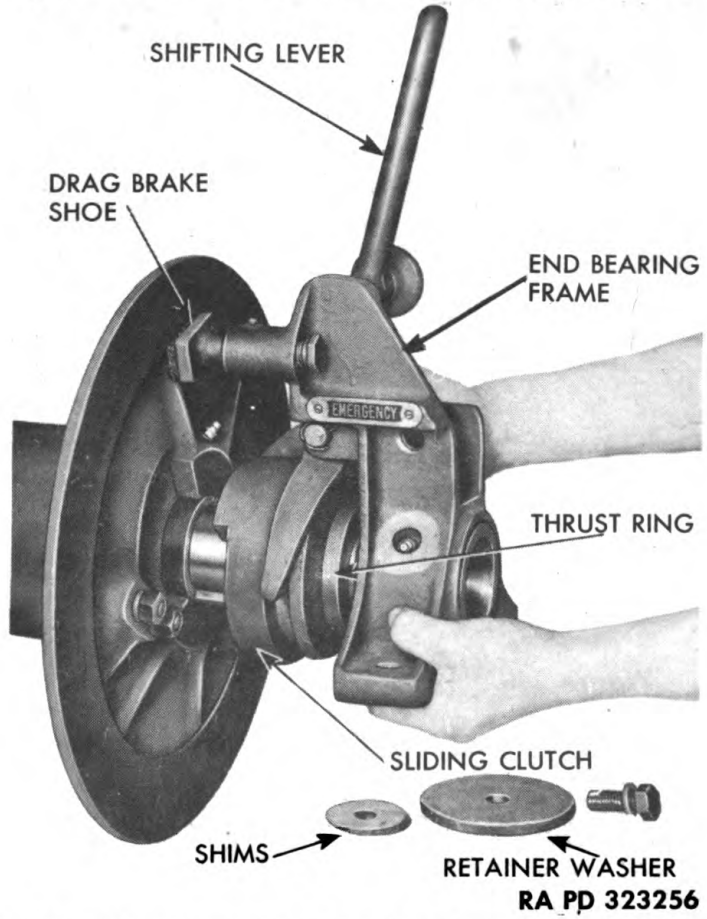

Figure 263 — Removing End Bearing Frame and Sliding Clutch
c. **Remove End Bearing Frame Assembly and Sliding Clutch** (fig. 263). Remove cap screw and lock washer attaching retainer washer to drum shaft, and remove retainer washer and shims. Slide end bearing frame, thrust ring, and sliding clutch off shaft. Remove drag brake shoe and spring from frame.
i. Install End Bearing Frame Assembly and Sliding Clutch (fig. 263). Install sliding clutch, thrust ring, and end bearing frame assembly on drum shaft with shifting lever yoke in position on sliding clutch. Install shims and retainer washer to end of shaft by installing one cap screw and lock washer.